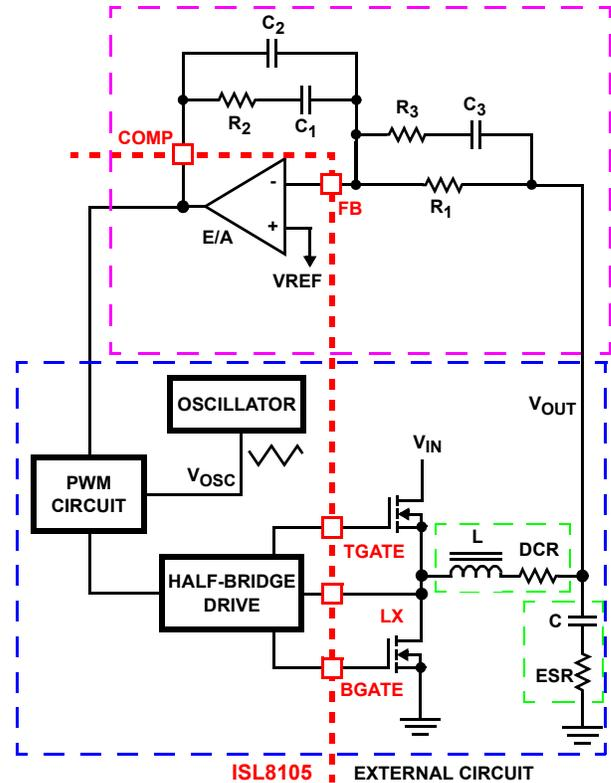

FIGURE 9. VOLTAGE-MODE BUCK CONVERTER COMPENSATION DESIGN
This section highlights the design considerations for a voltage-mode controller requiring external compensation. To address a broad range of applications, a type-3 feedback network is recommended (see Figure 9).
Figure 9 highlights the voltage-mode control loop for a synchronous-rectified buck converter, applicable to the ISL8105 circuit. The output voltage (V_{OUT}) is regulated to the reference voltage, V_{REF}, level. The error amplifier output (COMP pin voltage) is compared with the oscillator (OSC) triangle wave to provide a pulse-width modulated wave with an amplitude of V_{IN} at the LX node. The PWM wave is smoothed by the output filter (L and C). The output filter capacitor bank's equivalent series resistance is represented by the series resistor ESR.
Equations 5 through 8 that relate the compensation network's poles, zeros and gain to the components (R₁, R₂, R₃, C₁, C₂, and C₃) in Figure 9. Use the following guidelines for locating the poles and zeros of the compensation network:
1. Select a value for R₁ (1kΩ to 10kΩ, typically). Calculate value for R₂ for desired converter bandwidth (F₀). If setting the output voltage to be equal to the reference set voltage as shown in Figure 9, the design procedure can be followed as presented in Equation 5.